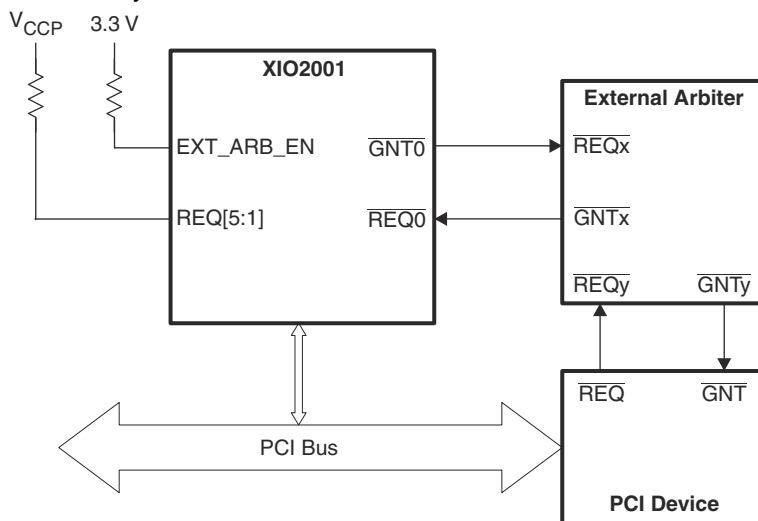

Figure 9-3. External Arbiter Connections
- The XIO2001 supports an external PCI bus arbiter. When $\overline{PERST}$ is deasserted, the logic state of the EXT_ARB_EN pin is checked. If an external arbiter is required, EXT_ARB_EN is connected to V_{DD_33} . When connecting the XIO2001 to an external arbiter, the external arbiter's REQ signal is connected to the XIO2001 0 $\overline{GNT}$ output terminal. Likewise, the $\overline{GNT}$ signal from the external arbiter is connected to the XIO2001 0 REQ input pin. Unused REQ signals on the XIO2001 should be tied together and connected to V_{CCP} through a pull-up resistor. When in external arbiter mode, all internal XIO2001 port arbitration features are disabled. Figure 9-3 illustrates the connectivity of an external arbiter.